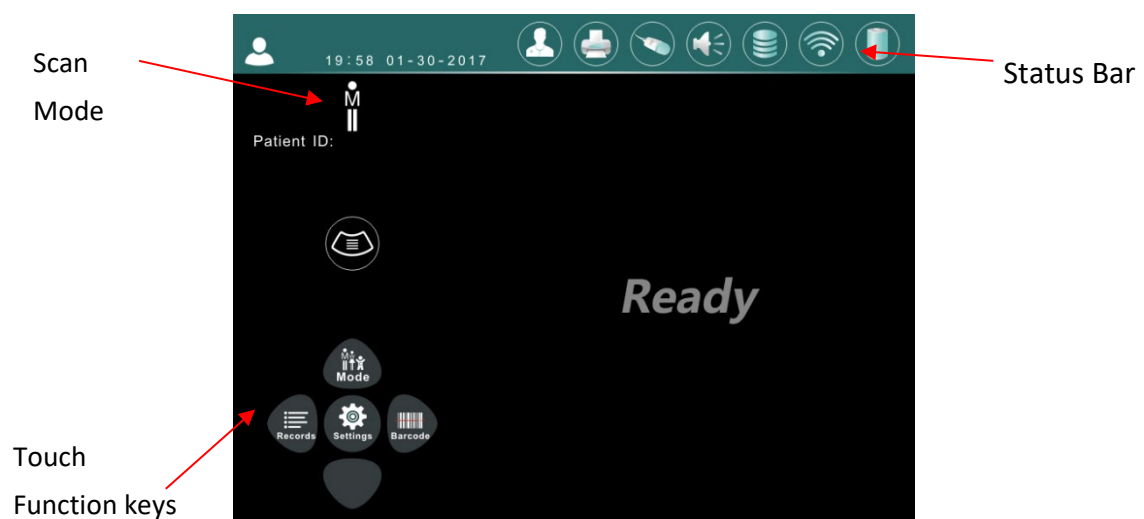

Figure 7-3 Main system interface
7.4.1 Main system interface is as shown in Figure 7-3.